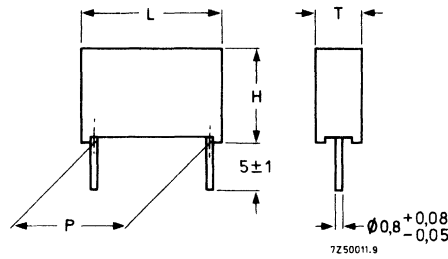

Fig. 1 Capacitors 2222 344.
Table 1 U_R (DC) = 100 V; max. AC voltage = 63 V, Fig. 1
Table 2 U_R (DC) = 250 V; max. AC voltage = 160 V, Fig. 1
Table 3 U_R (DC) = 400 V; max. AC voltage = 220 V, Fig. 1
Table 4 U_R (DC) = 630 V; max. AC voltage = 220 V, Fig. 1